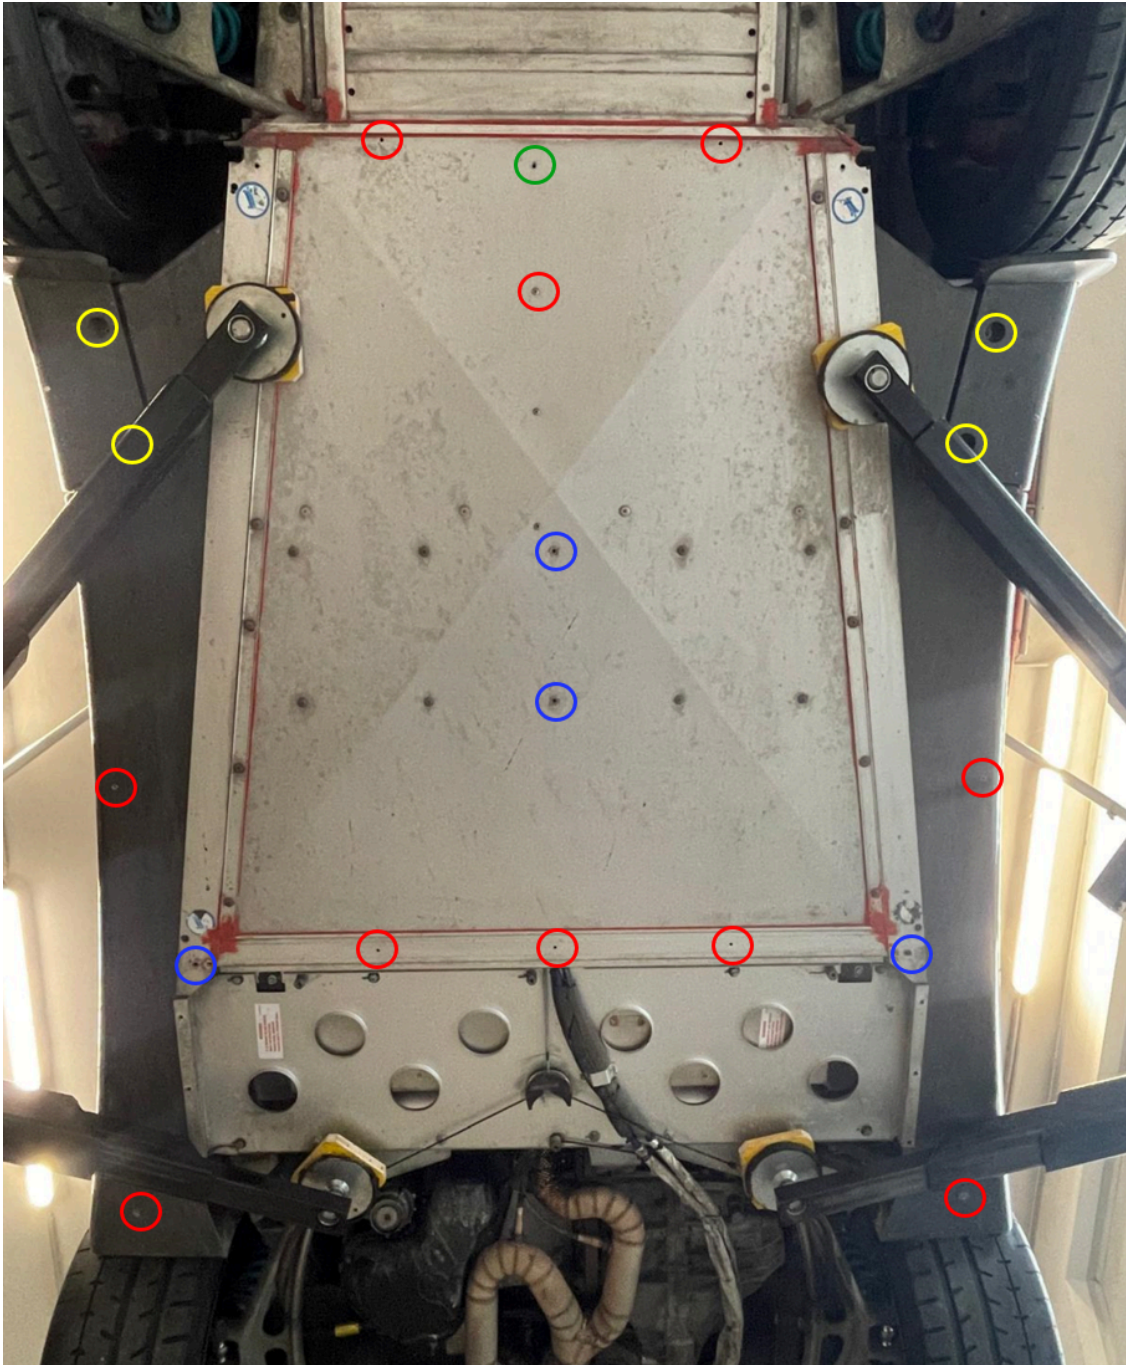

Fig 8: Preparing the screwing points at the underfloor
- Remove the in Fig 8 yellow marked screws from the A-panel and as well the blue marked screws. (to loosen the blue marked screws a few hits are necessary to loosen the bodywork adhesive) Recut the M6 threads of the blue marked screwing points. The green marked rivet must be removed and must be drilled out to  $\varnothing 7\text{mm}$ .
10. After removing the chassis protection, M6 rivet nuts (28) are put into the in Fig 8 red and green marked holes.